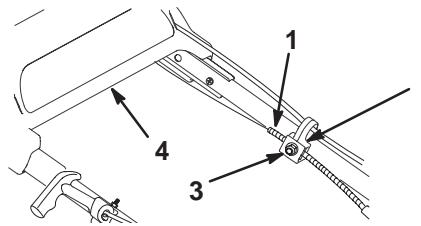

Figure 30
- Loosen the cable support nut (Fig. 30).
- With the upper handle pulled and held back as far as possible and while holding the belt guide tab down, pull the cable jacket down (toward the lawn mower) to remove all the slack in the cable (Fig. 30).
- Tighten the nut on the cable support (Fig. 30).